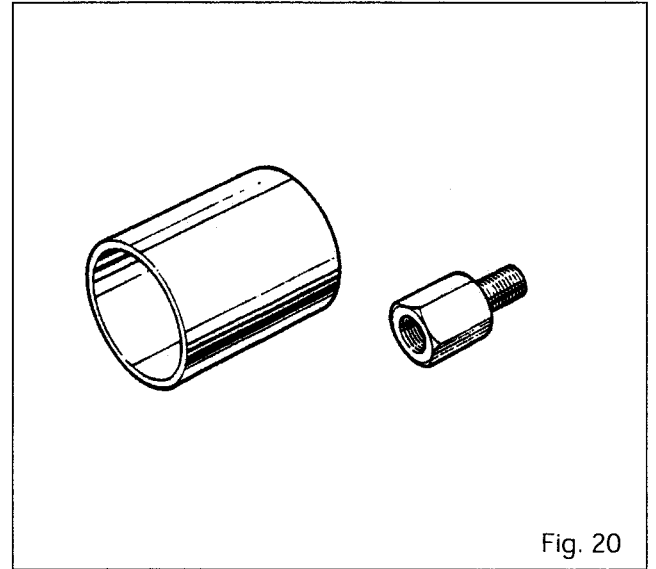

Fig. 20
**MF451B - Swivel extractor (Fig. 20)**
**MF451B3 - End fitting for extractor M18 (Fig. 20)**